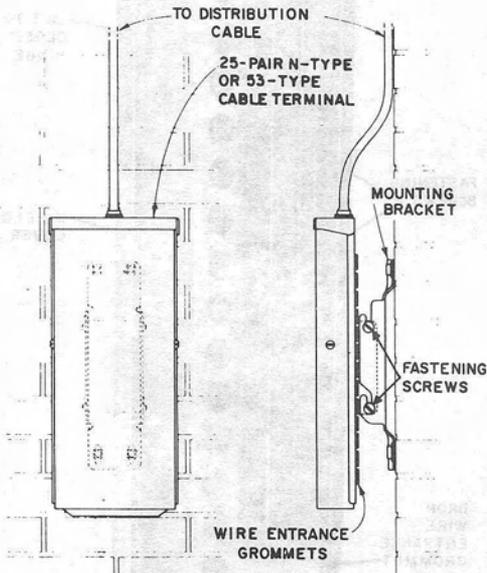

Fig. 37—Installing Terminal on Mounting Bracket
(3) Place the terminal on the mounting bracket and tighten the screws to secure the terminal. See Fig. 37.